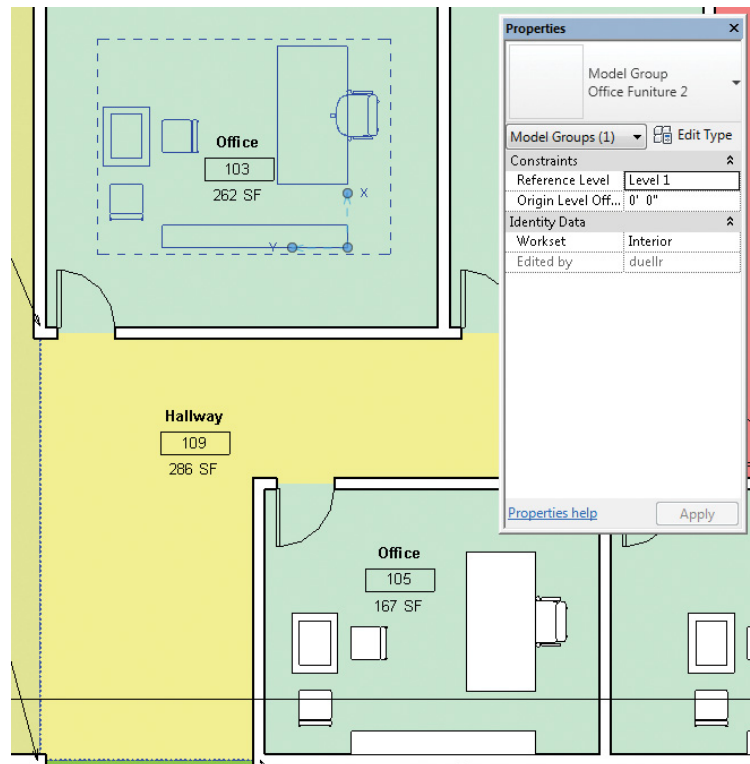

FIGURE 10.17 Copying a group
1. Copy a group of furniture from room 105 to room 103, as shown in Figure 10.17. Because the active workset is Interior, the elements in the group are assigned to this workset.